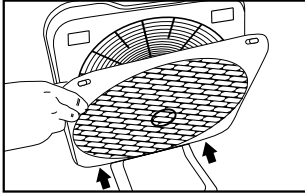

Fig. 20
- Hold engaged bottom of the grill plate in place and push the top of the grill plate back toward the unit until the release tabs at the top of the grill click back into place. See Fig. 20